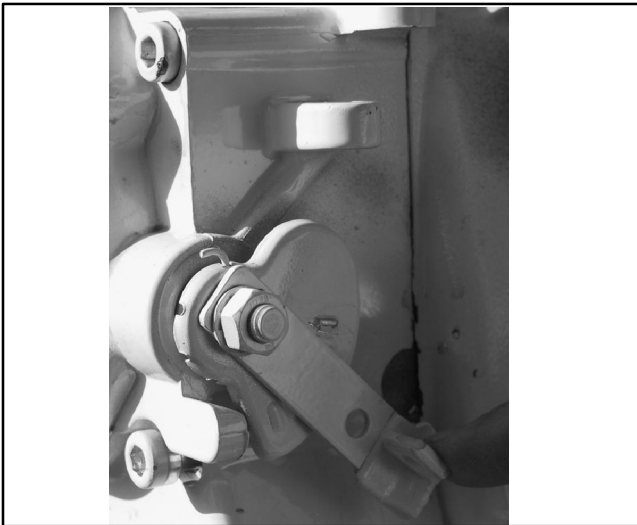

Figure 10-79 Ratchet Plate
12. The outer spring is correctly set when the accelerator lever is held in position during a higher engine speed rate. Increase its tension by changing the position on the ratchet plate. Also, check its reaction in the opposite direction. See Figure 10-79.